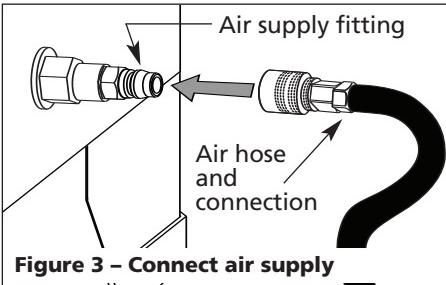

Figure 3 – Connect air supply
- Connect air supply (max. 125 psi) to the fitting on the side of the cabinet (see Figure 3).